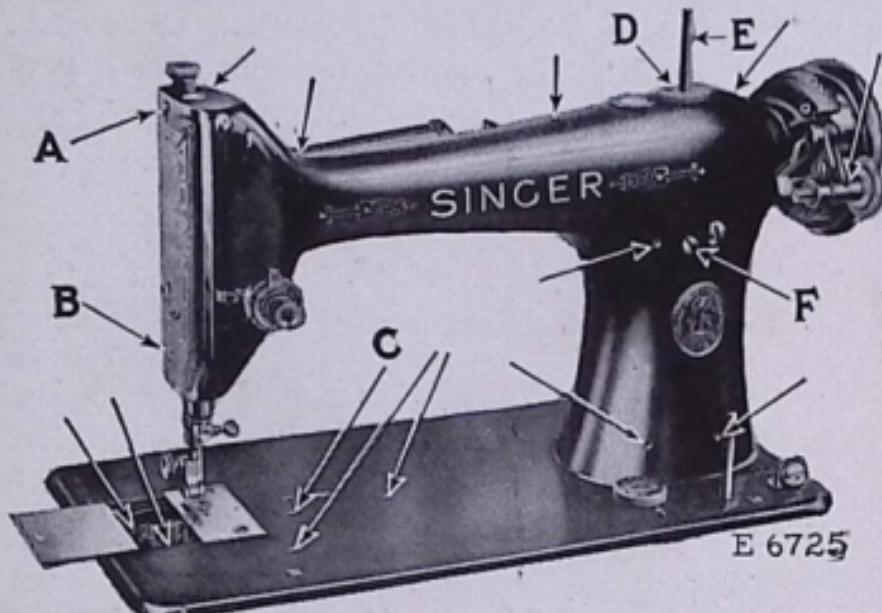

FIG. 27. FRONT VIEW, SHOWING OILING POINTS
machine requires oiling, and if used continuously, it should be oiled each day. With moderate use, an occasional oiling is sufficient. Oil should be applied at each of the places shown by arrows in Figs. 27, 28 and 29. One drop of oil at each point is sufficient with the exception of the oil hole (C, Fig. 27) into which hole about 12 drops of oil should be poured each time the machine is oiled. Oil holes are provided in the machine for bearings which cannot be directly reached.
To oil movable parts in the head of the machine, take out the screw (B, Fig. 27) near the lower end of the face plate and loosen the screw (A, Fig. 27)
The gears of the motor should occasionally be lubricated with grease from the tube of Singer Motor Lubricant which is furnished with the machine. Unscrew the spool pin (E, Fig. 27)—a slot being cut at the top of the spool pin to permit the use of a screw-driver. After removing the spool pin and felt washer (D, Fig. 27) insert the tip of the motor lubricant tube into the spool pin hole and force a small quantity of the lubricant through the hole to lubricate the gears, then replace the spool pin and felt washer. **Under no circumstances should oil be used at this hole, but only the lubricant.**
- Remove the screw (F, Fig. 27, page 28) which holds the motor.
- (j) Replace the screw (F, Fig. 27, page 28). The final position of the motor has an important bearing on the free running of the machine, and it may be necessary to slightly shift the motor to the left or right before the final tightening of the screw (F, Fig. 27).